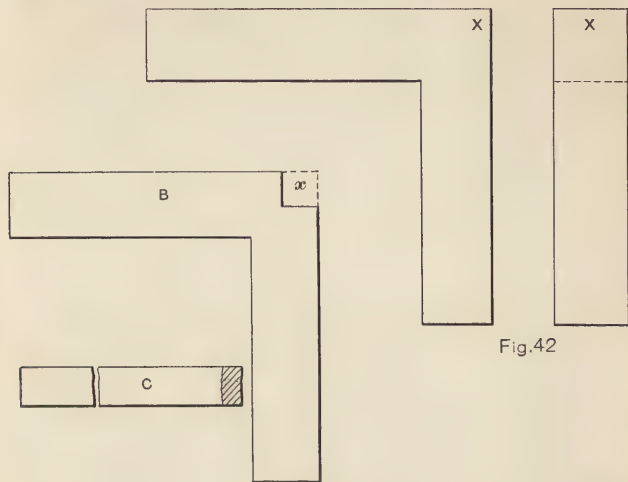
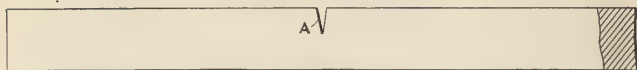

Fig.42
Fig.43
**Making a Square Corner in Heavy Stock.**—I have known blacksmiths to work hard for four or five hours on a job like Fig. 42, made from  $2\frac{1}{2}$ -inch square stock, when, if they had followed the method here described, it could have been done in half the time and would have given just as good satisfaction. All smiths know how difficult it is to square up the outside corner of a piece made from  $2\frac{1}{2}$ -inch square stock, as at X, Fig. 42. To make an angle like this, select a piece of square stock of the size called for by the drawing, allowing for finish if required. With the hot chisel cut about half way through the bar as at A, Fig. 43,